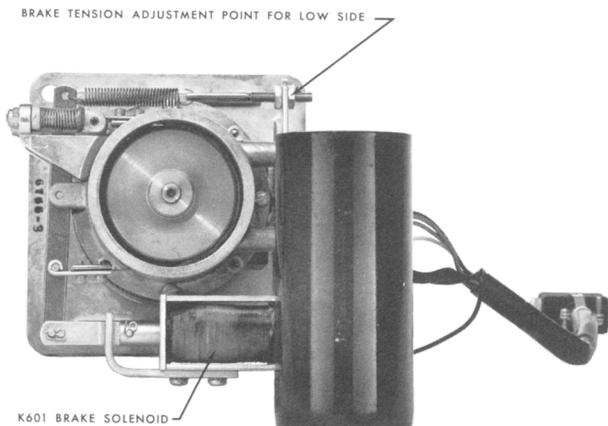

Fig. 5-6 BRAKE ADJUSTMENT, LOW SIDE
Brake adjustment is made (with no power applied to the equipment) at the point shown in figure 5-6.
Step 6: Adjust the supply and takeup motors brakes for scale readings listed below. Points of adjustment are shown in figures 5-6 and 5-7.